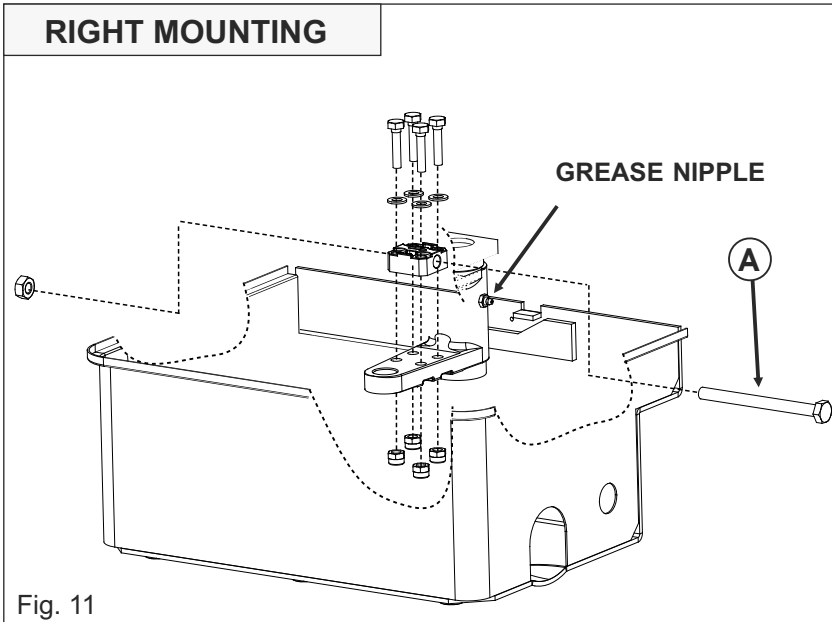
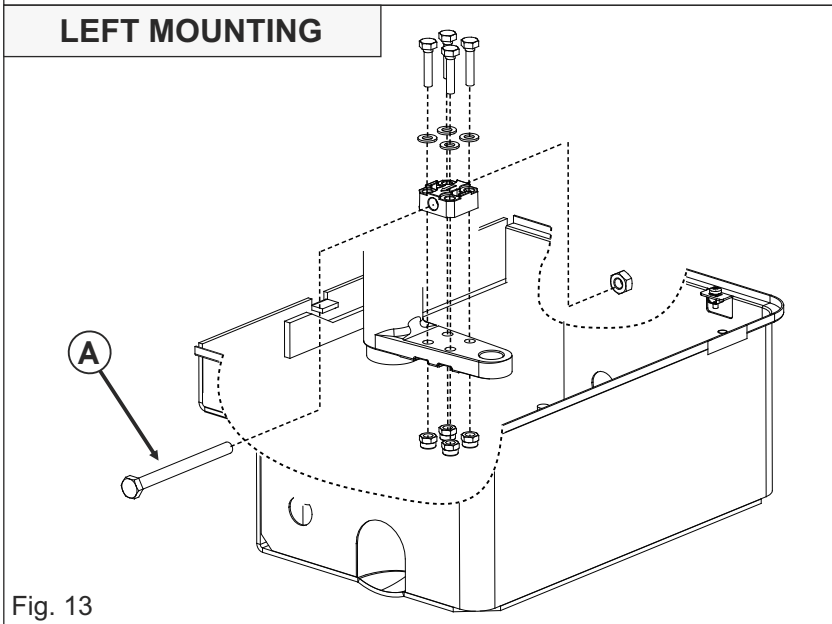

Fig. 11
Fig. 13
3.1. Insert the limit switch support on the rod support unit and fix it with the screws (Fig. 11 or Fig.13)
3.2. Insert the «A» screw(Fig. 11 or Fig. 13) as shown in the drawing, paying attention to the direction of insertion given by the arrow on the support (Fig. 12a or Fig. 14a)
ONCE THE INSTALLATION IS COMPLETED, RELEASE THE OPERATOR AS PER THE INSTRUCTIONS IN CHAPTER 8 AND CARRY OUT SOME SLOWLY MANUAL MANEUVERS, CHECKING THAT THERE ARE NO FRICTIONS, IRREGULARITIES AND THAT THE MOVEMENT IS SMOOTHLY THROUGHOUT THE EXCURSION. IT IS IMPERATIVE TO GREASE THE CARRYING BOX THROUGH THE SPECIAL GREASE NIPPLE (FIG. 11) UNTIL THE GREASE COMES OUT. (USE GREASE DIN 51502 KP 2 N-20 - K 2 K-20)